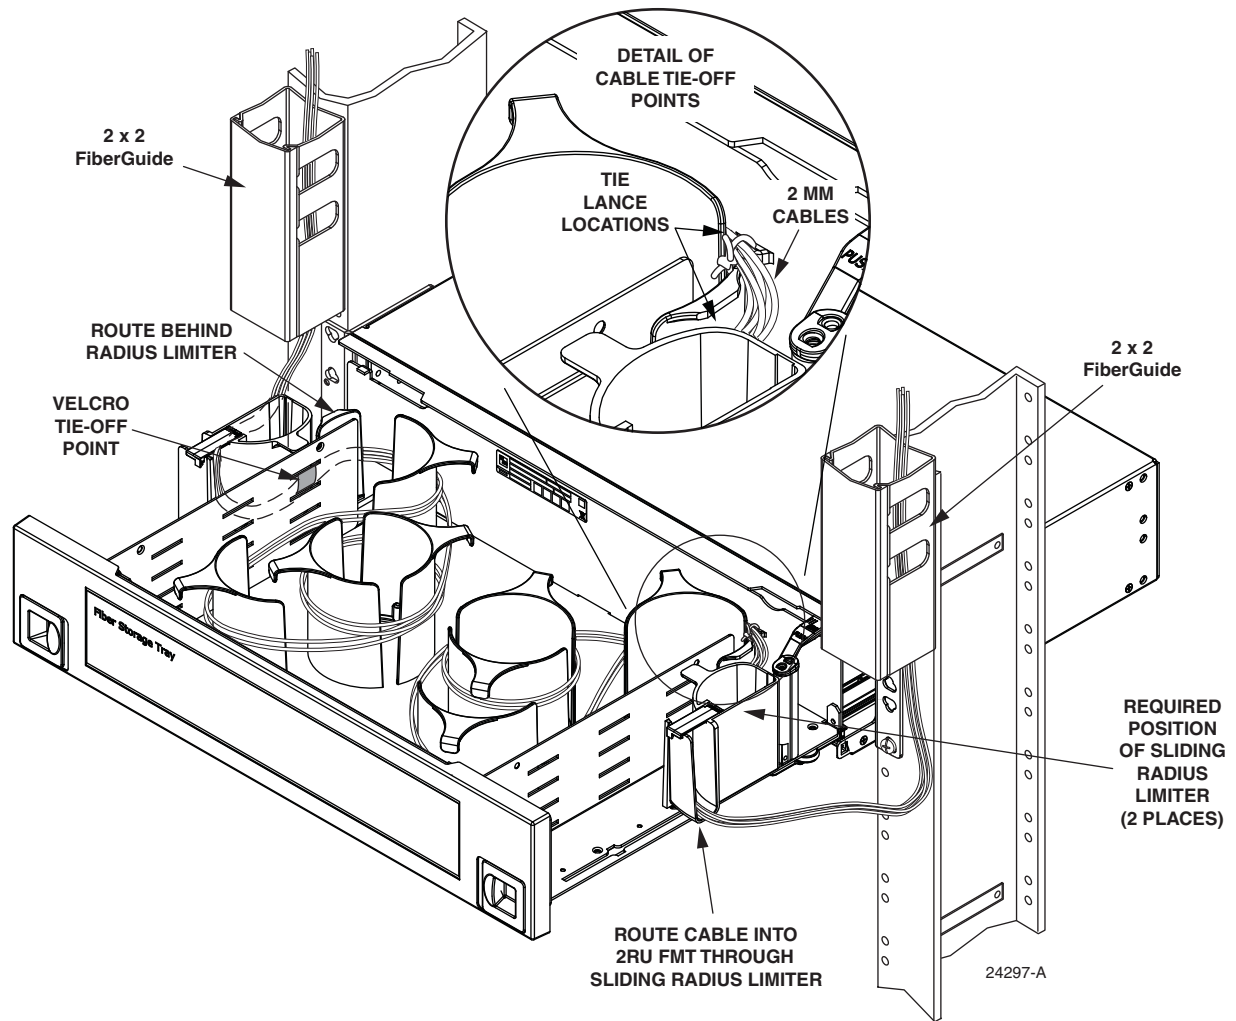

Figure 22. Routing Patch Cords into Bulkhead Storage Tray
2. Route the patch cords along the rack to the 2RU FMT, as shown in Figure 22. Route the patch cords in from either side of the tray.